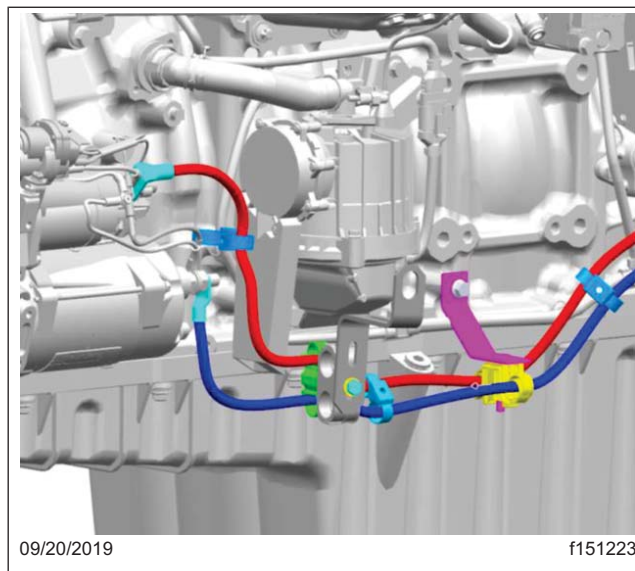

Fig. 1, Starter Cable Brackets
4. Remove the starter cable brackets. See Fig. 1.